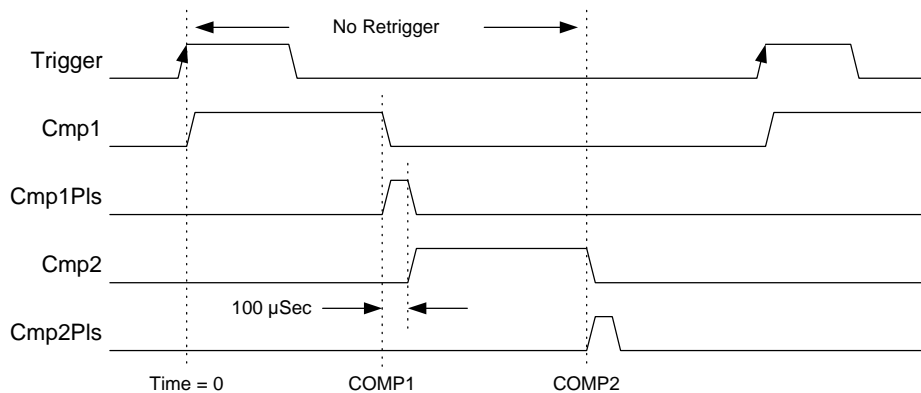

Figure 5. Camera Control Output Signals
The CPLD has two counters for generating line/frame start and exposure timing signals (Figure 5). These 9-bit counters run at 10 KHz, allowing timing from 100 microseconds to 50 milliseconds. The counters are triggered by the rising edge of one of the two EXT_TRIG n inputs from J1A/J1B. Upon triggering, they count up from zero and stop when they reach maximum count (511). Two 9-bit compare registers, COMP1 and COMP2, are associated with each counter. These are programmed to create timing events from 1 to 512 clock cycles after the trigger. In normal usage the value of COMP1 is less than that of COMP2. Four output signals per counter, Cmp1, Cmp1PIs, Cmp2, and Cmp2PIs, are run to the IQX32B where they can be selected to run to the four strobe lines. Signals Cmp1PIs and Cmp2PIs are active high pulses, 100 microseconds wide, beginning at the times programmed in COMP1 and COMP2. Cmp1 is an active high pulse, which starts at the trigger and ends at the time programmed into COMP1. Cmp2 is an active high pulse starting at the time programmed into COMP1 and ending at the time programmed into COMP2 (note that if COMP2 is less than COMP1 this signal will begin during one trigger cycle and end during the next). The counters cannot be retriggered while running until the time programmed into COMP2 has elapsed.